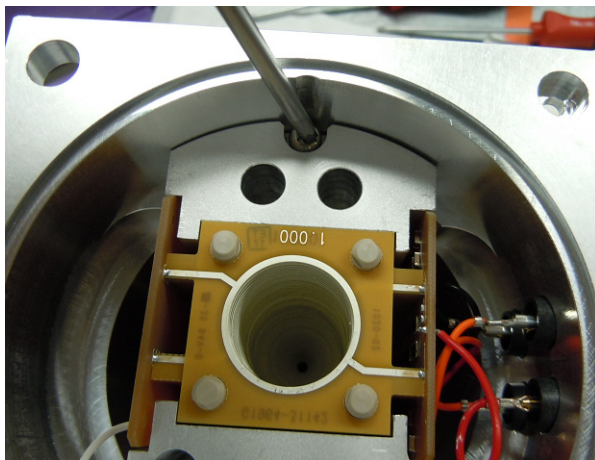

Figure 48 Loosening captive screw on the high pressure ion funnel.
- 5 Loosen the two captive screws that secure the ion funnel to the housing. See **Figure 48**.